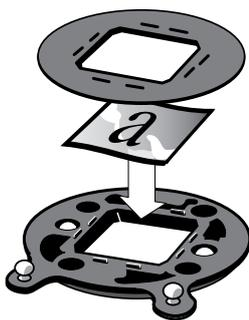

Figure 1-10
3. Place the transparency (without frame) between the upper part and bottom plate (see Figure 1-10).